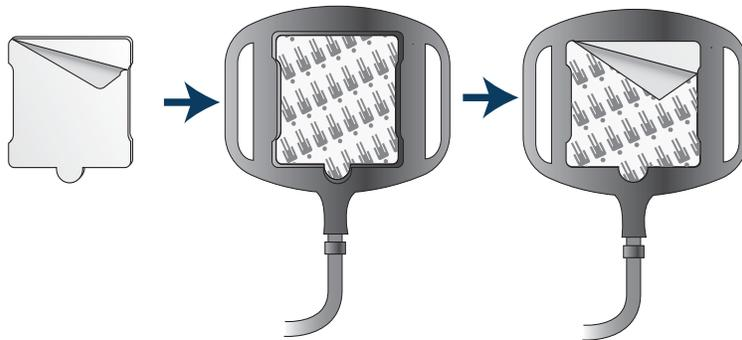

Figure 52. Attaching an adhesive patch
- » **Adhesive patch** (*Figure 52*)